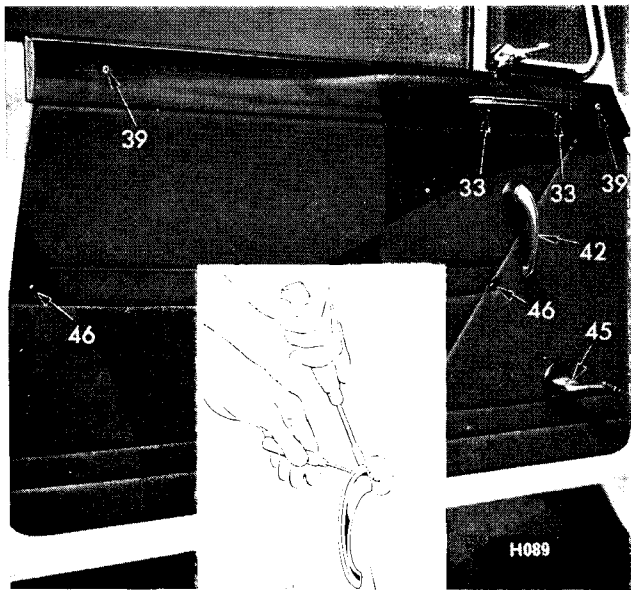

Fig. 36. Trim panel attachments
A. Trim Panel: To Remove (Fig. 36)
1. Remove four screws (39) and (33) securing the wood capping.
2. Lever off two buttons (46), unscrew the exposed screws and remove the flat washers.
3. Remove two interior handles (42) and (45) by pressing the escutcheons (40) and (43) firmly against the trim panel and pushing out the retaining pins (41) and (44).
5. Remove the coil springs (49) from the spindles.